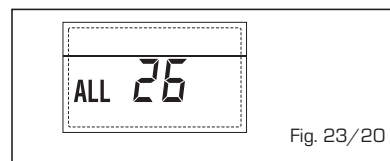

Fig. 23/20
**- ANOMALIA COERÊNCIA APLICAÇÕES SOLAR “ALL 27” (fig. 23/21)**